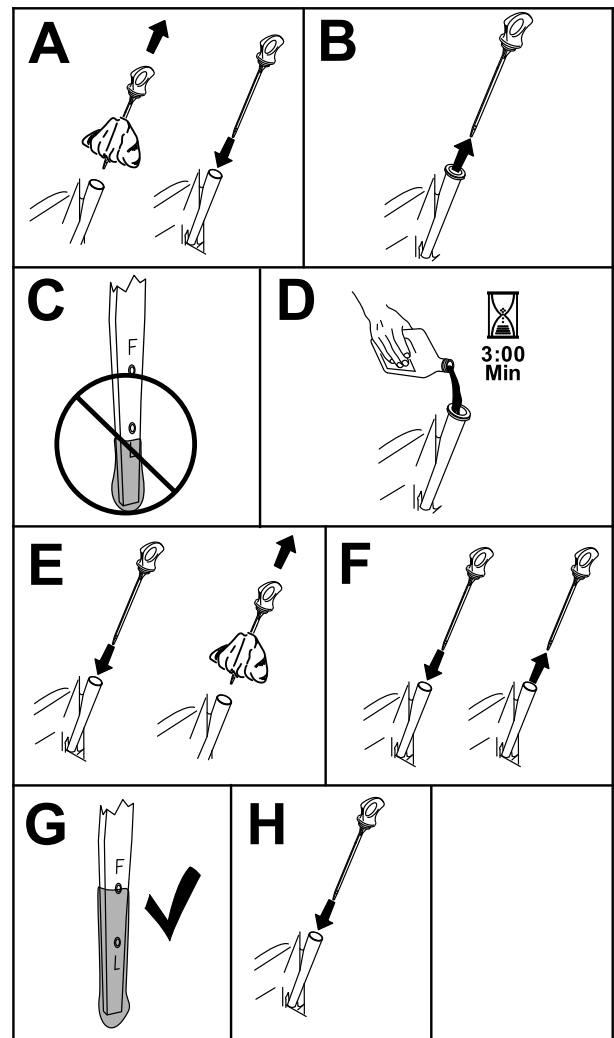

Figure 36
3. To keep dirt, grass clippings, etc., out of the engine, clean the area around the oil-fill cap and dipstick before removing it (Figure 36).